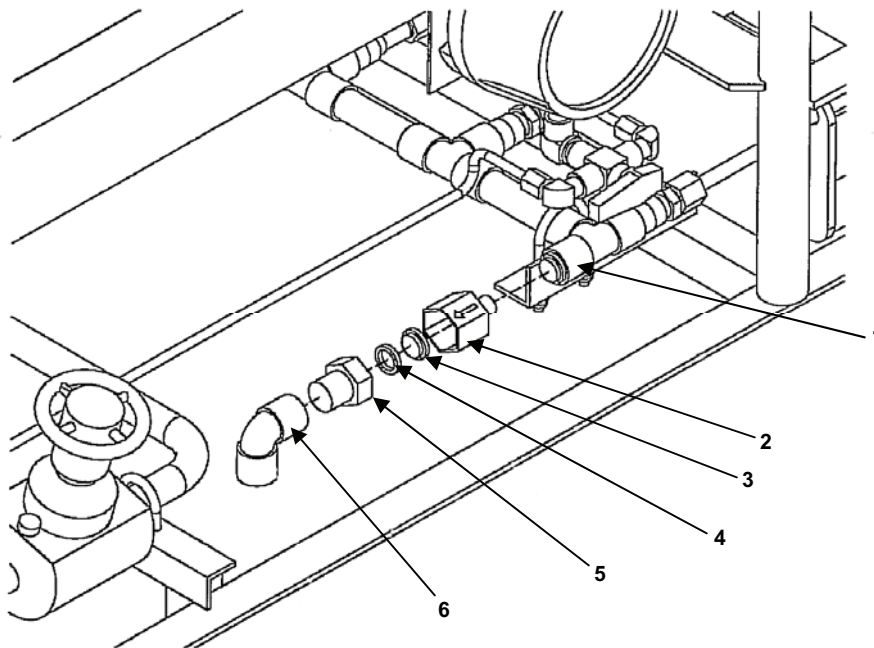

Figure 1. Rupture Disc Holder.
1. Loosen the outlet half (Figure 1, Item 5) of the rupture disc holder and elbow (Figure 1, Item 6) from product piping. It is not necessary to separate the elbow from the outlet half. See Figure 2.
2. Remove retaining ring (Figure 1, Item 4) and rupture disc (Figure 1, Item 3).
3. Remove inlet half (Figure 1, Item 2) of the holder from piping (Figure 1, Item 1) if necessary. **Note the direction of the arrow on the holder.**
1. If removed, install inlet half (Figure 1, Item 2) of the rupture disc holder into the piping (Figure 1, Item 1).
2. Install rupture disc (Figure 1, Item 3) into inlet half (Figure 1, Item 2): the rupture disc should be bulging into the airside.